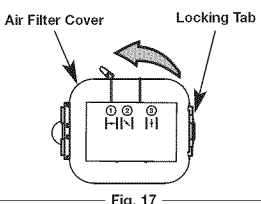

Fig. 17
- To open the air filter cover, push the locking tab on the right side of the cover inward and pull the air filter cover slightly out and to the left (Fig. 17).